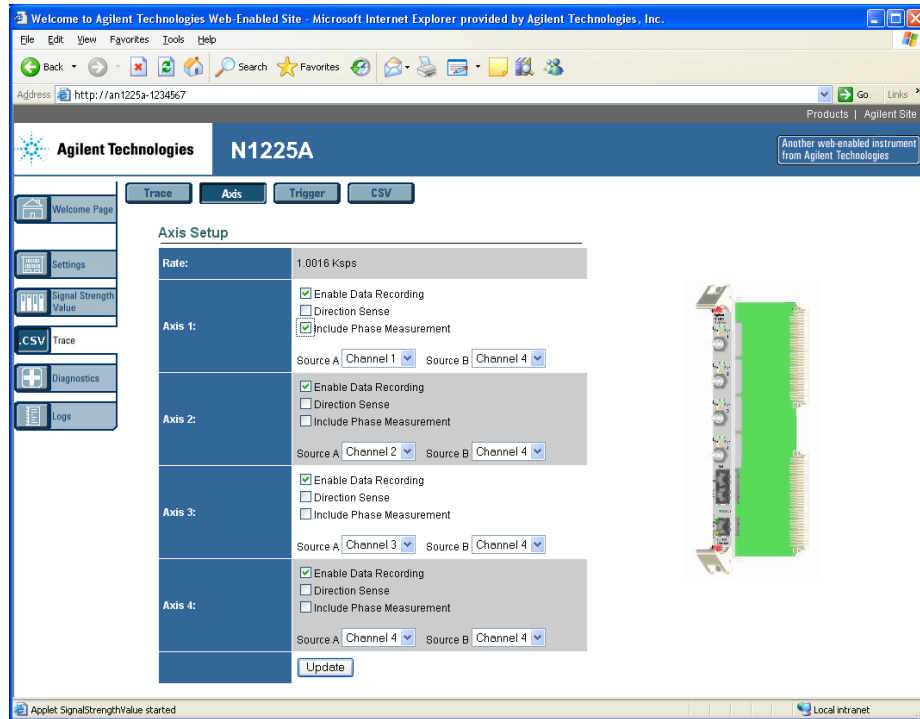

Figure 29 Axis Selection Page for Trace
- 1 To select the axis to record, click the Axis button. A window similar to Figure 29 opens.
Source A and Source B values in Figure 29 are what is in the Laser Source Control register (LSCR) bits B0 through B7. Changing Source A, or Source B or changing direction could cause equipment damage or an error if your stage is being controlled using N1225A data (over P2 or VMEbus) when the LSCR is changed. The LSCR for all axes is updated to the new values when you click the **Update** button.